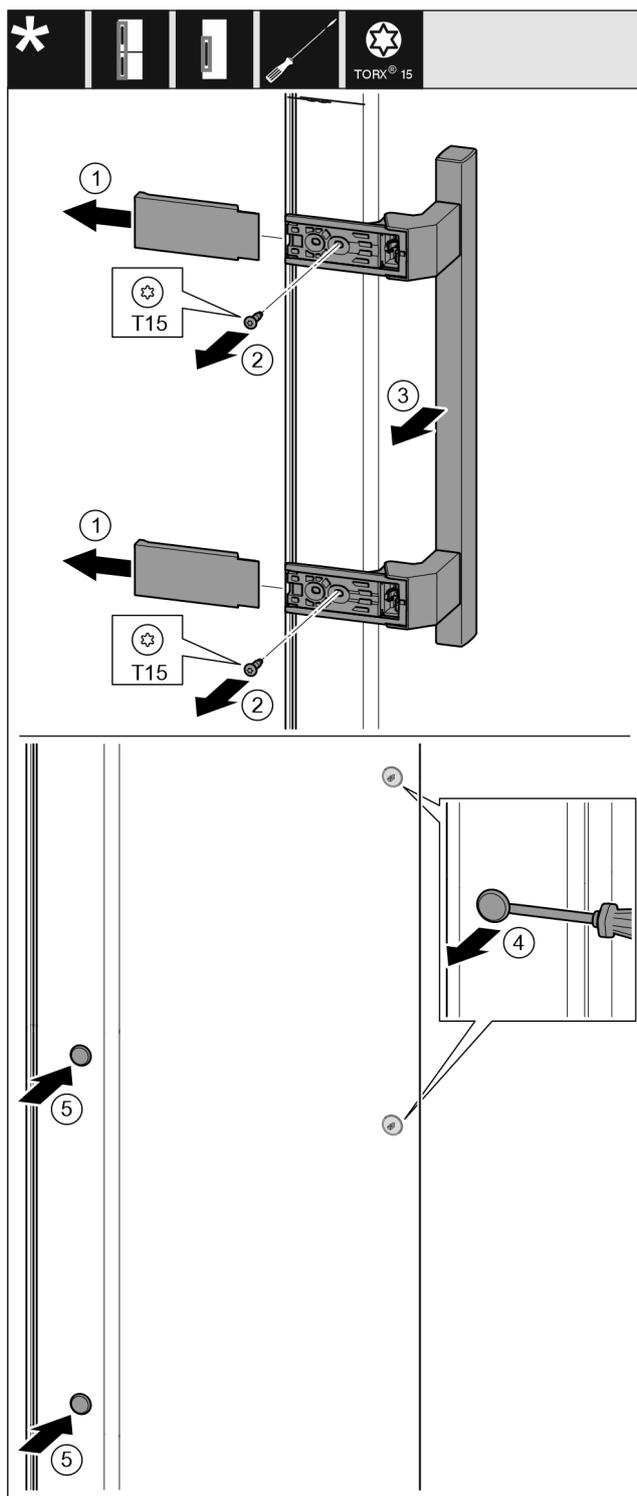

Fig. 19
- ▶ Pull off the cover. Fig. 19 (1)
- ▶ Unscrew the screws using a Torx 15 screwdriver. Fig. 19 (2)
- ▶ Remove the handle. Fig. 19 (3)
- ▶ Carefully lift the side plug with a slotted screwdriver and pull it out. Fig. 19 (4)
- ▶ Reinsert the plug on the other side. Fig. 19 (5)